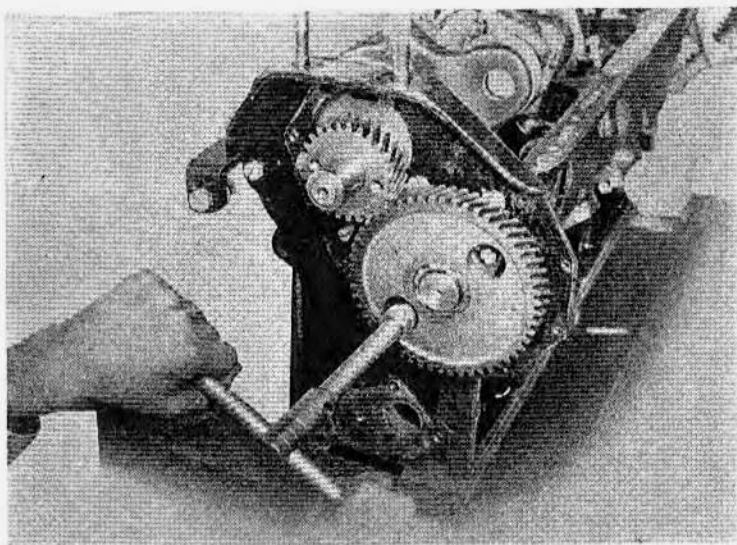

Figure 50 - Removing Camshaft Thrust Plate Bolts
(26) Remove the two camshaft thrust plate bolts by working through the two holes in the camshaft gear (Fig. 50).
(27) Remove the camshaft and gear assembly by pulling it out through the front of the block.